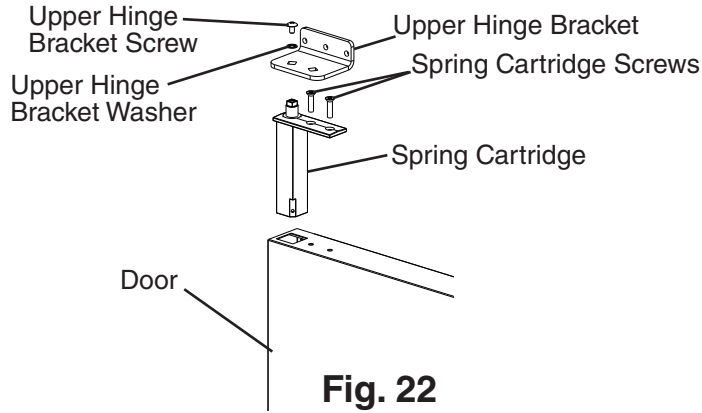
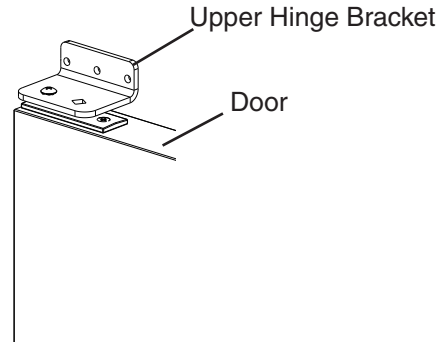

**Fig. 20**
**Fig. 21**
- 7) Rotate the door 180 degrees, to its new orientation. Remove the nylon bearing and filler screws. See Fig. 20. **NOTICE! Care should be taken not to damage the door.** Mount the nylon bearing and filler screws into the holes left by the spring cartridge in the lower section of the door. See Fig. 21.